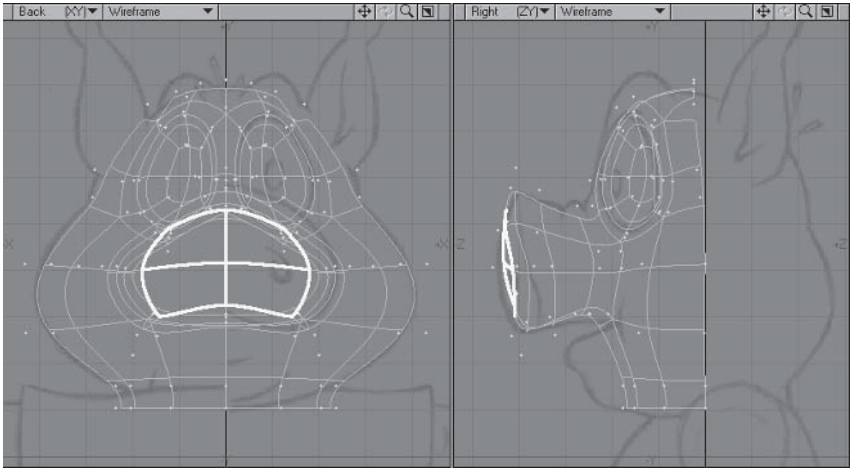

Figure 5.3-14. Creating the end of the nose.
6. **Super Shift** in place again, **Move** the polygons forward a little and, from the Back view, **Stretch** down both vertically and horizontally to match Figure 5.3-14.